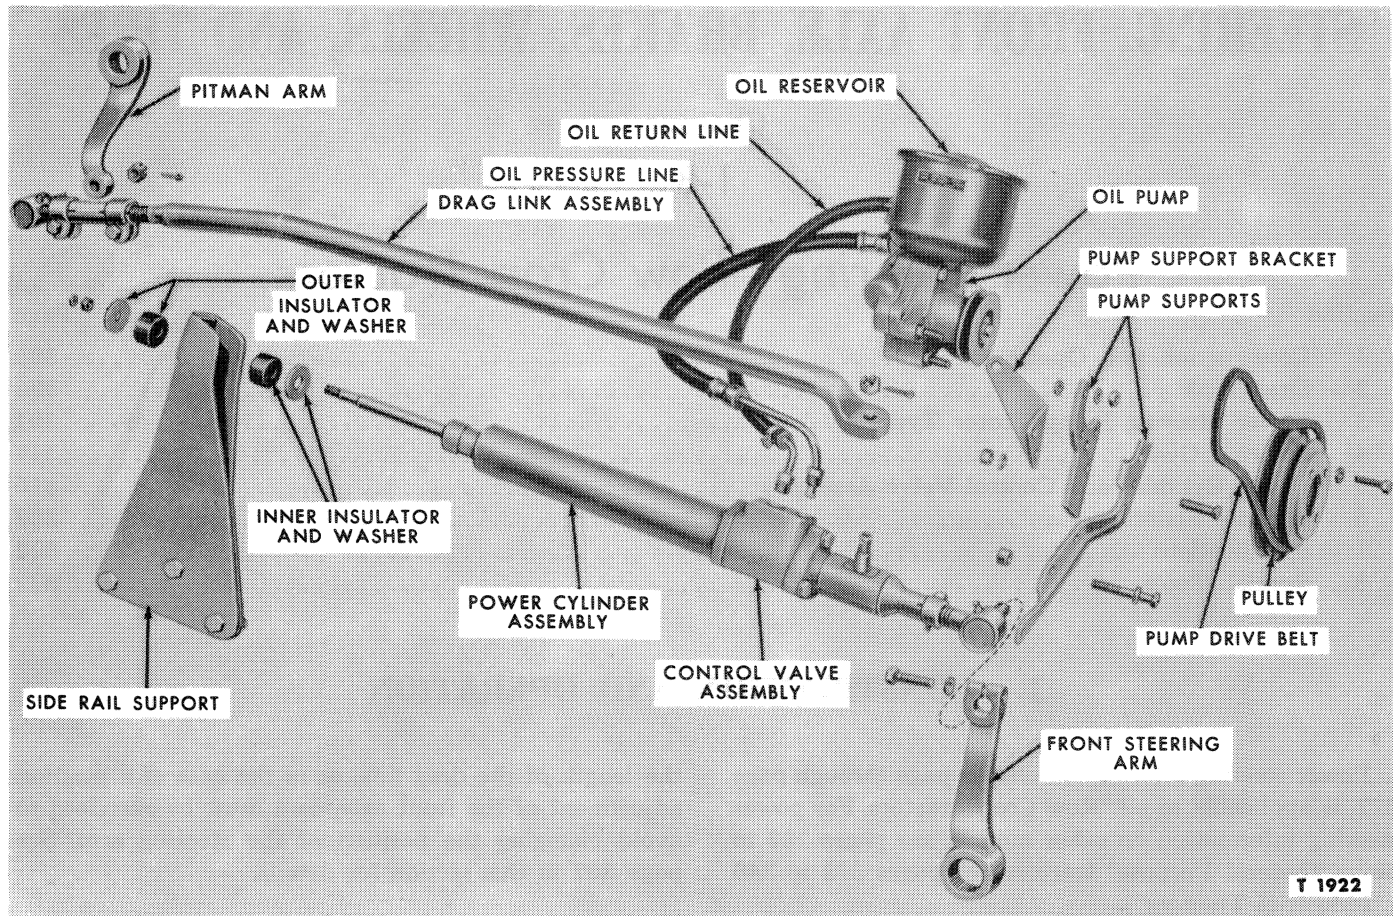
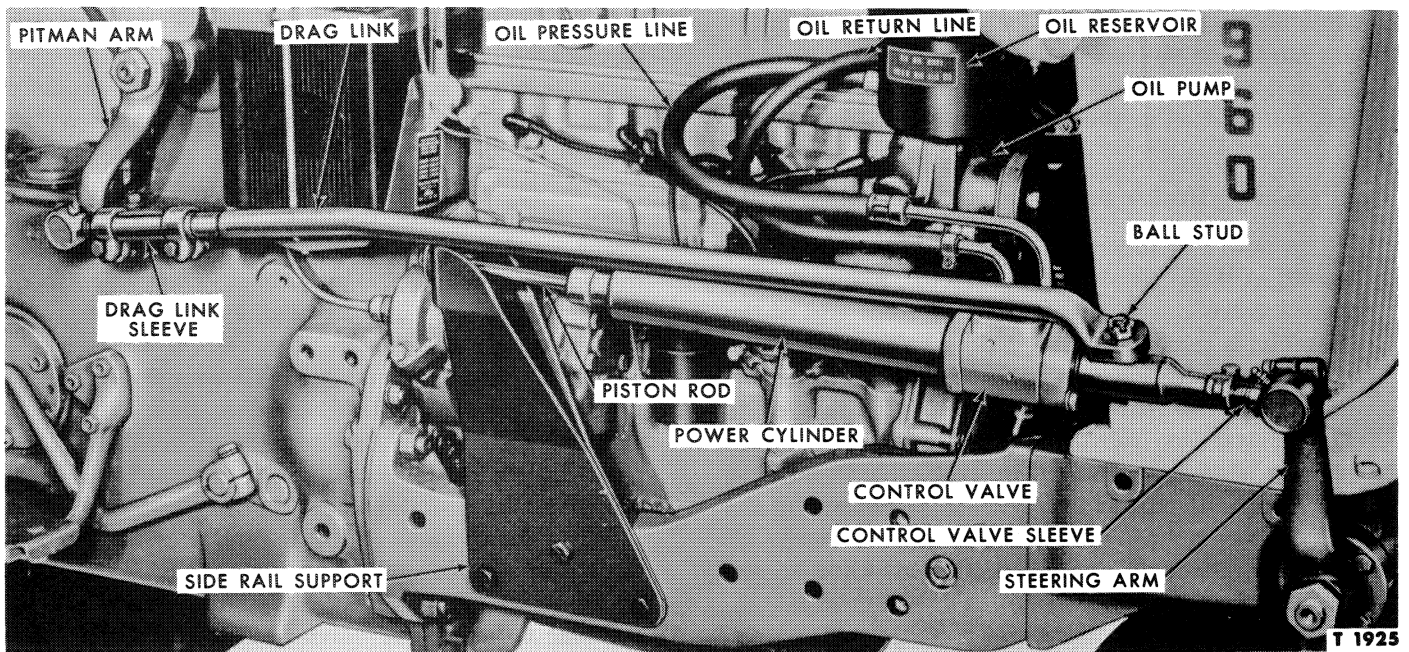

Figure 1—Components of Power Steering System
Figure 2—Installed View of Power Steering System Components
1. Place a drain pan under the rear of the cylinder and disconnect both hydraulic lines, Figure 1.
All units that affect the directional control of the tractor are components of the steering mechanism. These units are: the steering gear (including the steering column and steering wheel), the drag link, oil pump and reservoir, power cylinder and control valve, and the steering arm, Figure 1.
The drag link, Figure 1, consists of the drag link and the drag link adjusting sleeve. It is the steering linkage between the Pitman arm, attached to the steering gear, and the steering arm, Figure 2, connected to the front spindle assembly. “Row Crop” tractors have one drag link. It is mounted on the right side of the tractor. The drag link has no moving parts and requires little maintenance. Whenever it becomes necessary to change
Rotor-Type: Early model “Row Crop” tractors are equipped with a rotor-type pump and reservoir, mounted at the front right side of the engine, Figure 2. The pump is driven from the engine crankshaft by a single V-belt. Two elongated holes in the pump support bracket provide a means for adjusting the belt tension.
The power cylinder and control valve assembly is located at the right side of the tractor, Figure 2. The control valve sleeve, which is at the front end of the assembly, is threaded onto the drag link and attached to the front steering arm. The piston rod, which extends from the rear of the assembly, is attached to the pedestal side rail support, Figure 2. The power cylinder is double-walled. A lip-type oil seal, bushing, dust seal, and scraper, installed in the rod end of the cylinder, are held in place by a snap ring, Figure 25. The piston end of the cylinder is attached to the control valve housing.
1. Remove the drag link by removing the cotter pins and the castellated nuts which attach it to the Pitman arm (rear) and to the control valve sleeve and flange assembly (front), Figures 1 and 2.
2. Disconnect the pressure line and the return line hoses from the oil pump, Figure 1. Fasten the hoses in a raised position to prevent oil drainage.